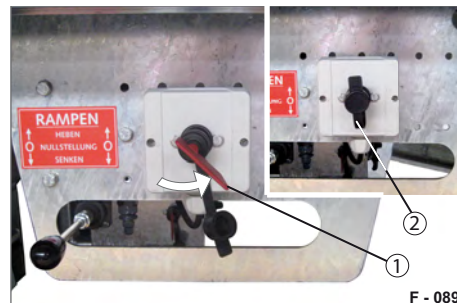

Fig. 39 Operating point
- ▶ Turn the power switch (Fig. 39/1) to OFF.
- ▶ Attach the protective cap (Fig. 39/2).